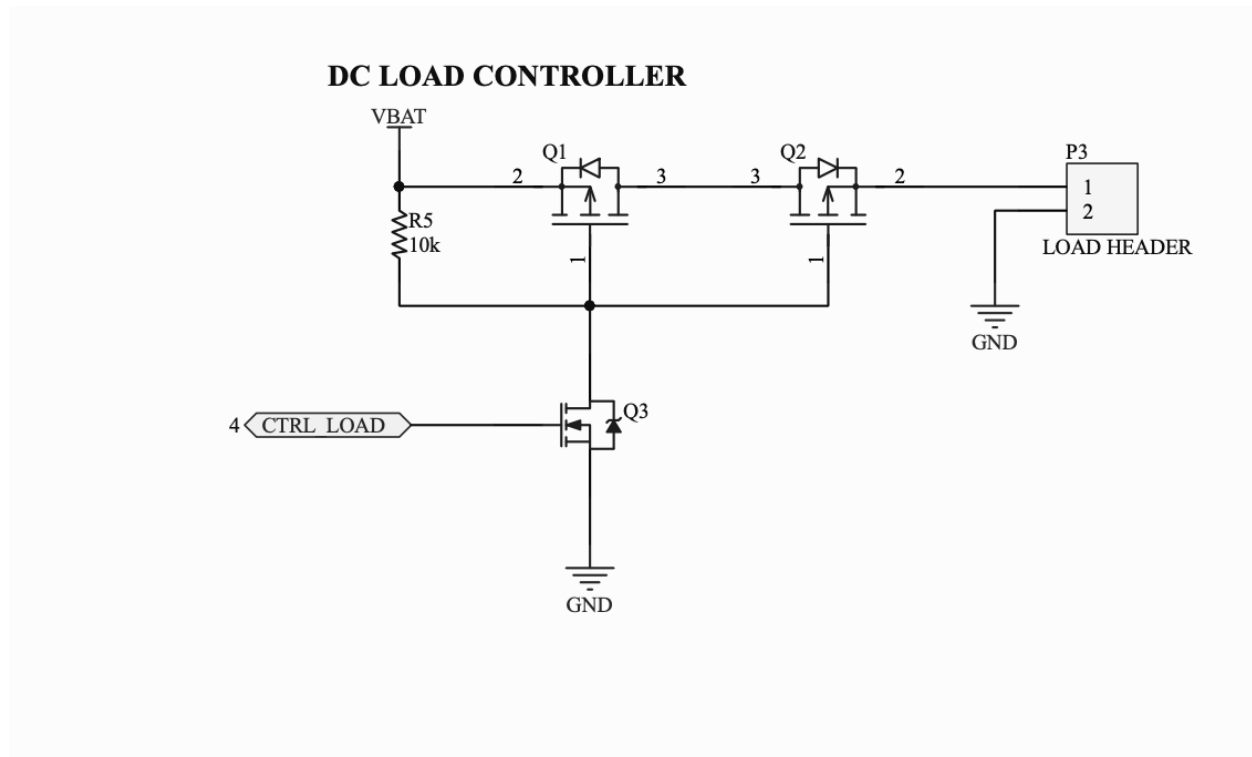

Figure 17: Detailed Schematic 4
- [4] Nagar, S. (2018). *Current Sensor Module*. [online] Research Gate. Available at: https://www.researchgate.net/figure/ACS712-Current-sensor-module_fig17_281865046 [Accessed 7 Sep. 2018].